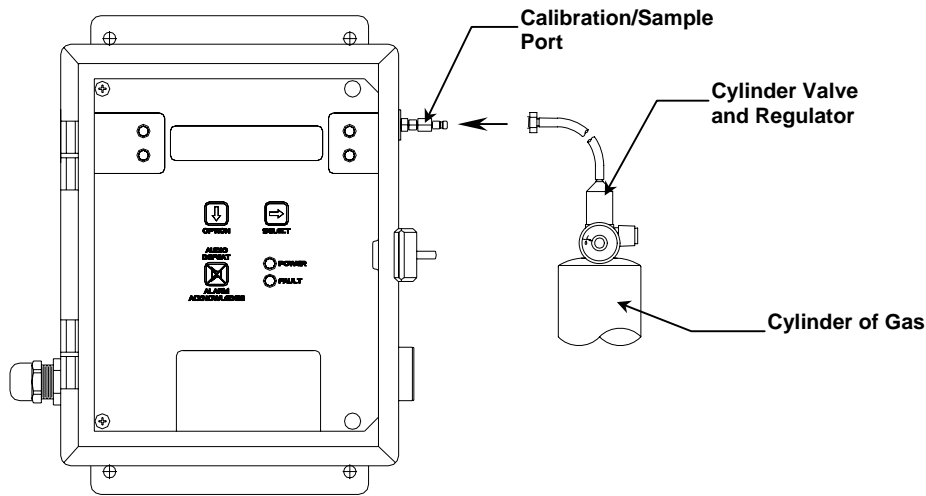

Figure 7: Connection of Calibration Gas Cylinder
- Press the **SELECT** switch, the gas & current reading are displayed in upper portion of display. The mV reading & "LowCal 0" is displayed in the lower portion of display. This is the LowCal setting, *usually zero*, clean air must be supplied to the sensor. This reading needs to be at or near zero. If it is not then a cylinder of clean 20.9 air should be used. See Figure 7 if this is required.
- Apply calibration gas to sensor. See **Figure 7**. After about 1 minute and mV reading has stabilized.